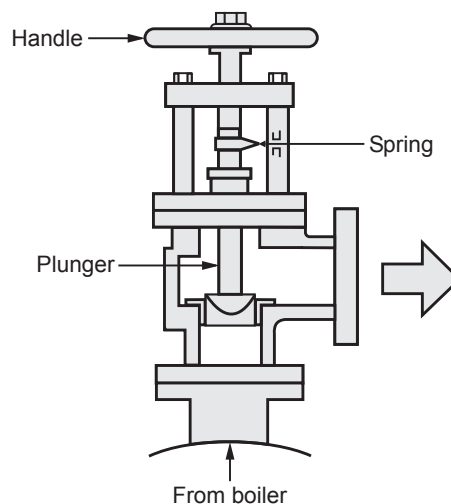

Fig. 2.12 : Steam stop valve
- The Fig. 2.12 shows steam stop valve.